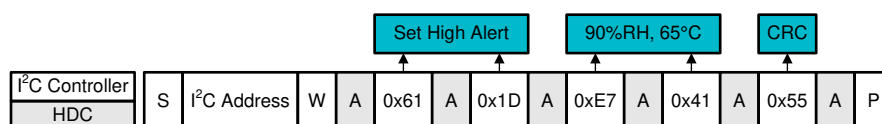

Figure 8-27. I²C Command Sequence: Example Programming of Set High Alert to 90% RH, 65°C
- a. Figure 8-27 illustrates the appropriate command to send to the HDC302x.